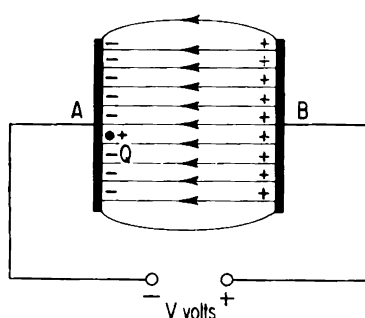

Fig. 5
If a positively charged particle Q is moved from plate A to plate B (Fig. 5) work has to be done against the field. If the p.d. between the plates is kept constant at 1 volt, 1 joule of work will be done on every coulomb of charge transferred.
Problem 3. What will happen to a positively charged particle released from B (Fig. 5) if we ignore gravity? What kind of energy would it possess when it reached A? If you knew the size of V , Q and the mass of the particle how could you find its speed at A?
The force (F) acting on a charge (Q) moving from one plate to another parallel plate is constant as the field is uniform. If the plates are d metres apart the work done in moving Q coulombs from A to B (Fig. 5) is given by the product $F \times d$.